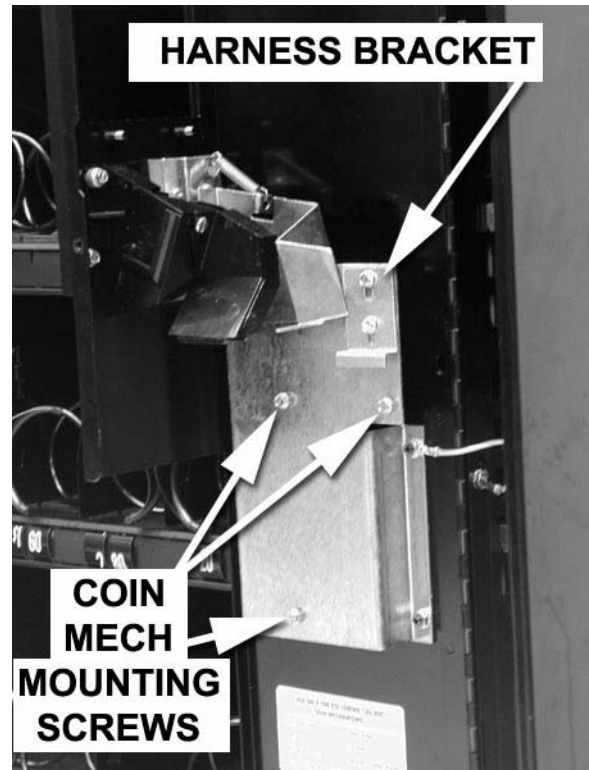

Figure 29
1. Hook the keyway holes in the rear of the coin mechanism on the 3 hex-head slotted screws loosened earlier (figure 29). Lower the coin mechanism into place.
3. Feed the harness through the harness bracket (figure 29). Push down on the harness bracket to capture the harness against the top of the coin mechanism.